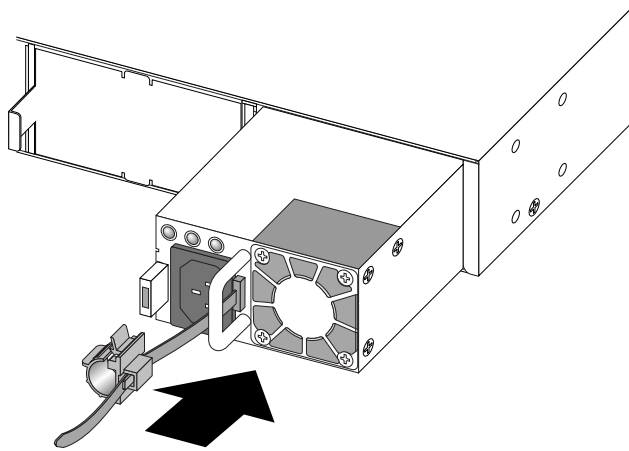

Figure 322: Installing a 750 W AC Power Supply in an EPS-C2 Chassis
- 3 Carefully slide the power supply all the way into the slot in the EPS-C2 chassis (see Figure 322: Installing a 750 W AC Power Supply in an EPS-C2 Chassis on page 349).